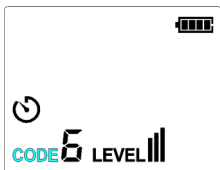

Figure 6.1.1b – CODE Increasing
3. When the CODE symbol flashes, short press the Up/Down button to set the CODE to 0, 1, 2, 3, 4, 5, 6 or 7, as shown in **Figures 6.1.1b** and **6.1.1c**. The default code is 5.